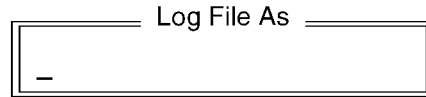

Figure-4.62 Log File As Entry Screen.
3. Select the file you wish to save as an ASCII text file and press <Enter>. The CI displays the following screen (Figure-4.62).